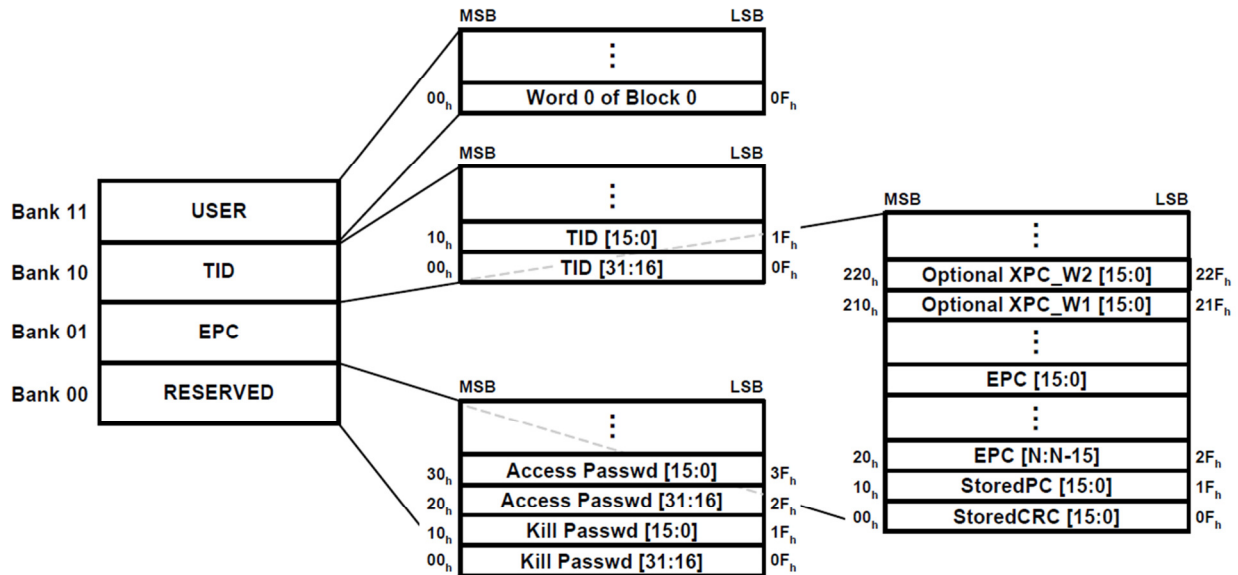

Figure 1. C1G2 logical memory map (uhfc1g2\_1\_2\_0\_standard-20080511.pdf – downloaded from <http://www.gs1.org/gsm/kc/epcglobal/uhfc1g2> on 22 Oct, 2011).
At times during the documentation, references to the RFID tag’s memory structure are made. Figure 1 (below) is from the Class 1, Gen 2 air interface protocol and shows how the tag’s memory is laid out.
*myMemoryBank (string):* The memory bank to be read, formatted as a two digit string. Valid options are “00”, “01”, “02” and “03”. See Figure 1 above or refer to the UHF Class 1 Gen 2 Air Interface Protocol Specification for further information on the structure of the tag and where to look for information.
*myDataLength (string):* The number of words (four digit hex values) to be read from user memory. See Figure 1 above or refer to the UHF Class 1 Gen 2 Air Interface Protocol Specification for further information on the structure of the tag and where to look for information.